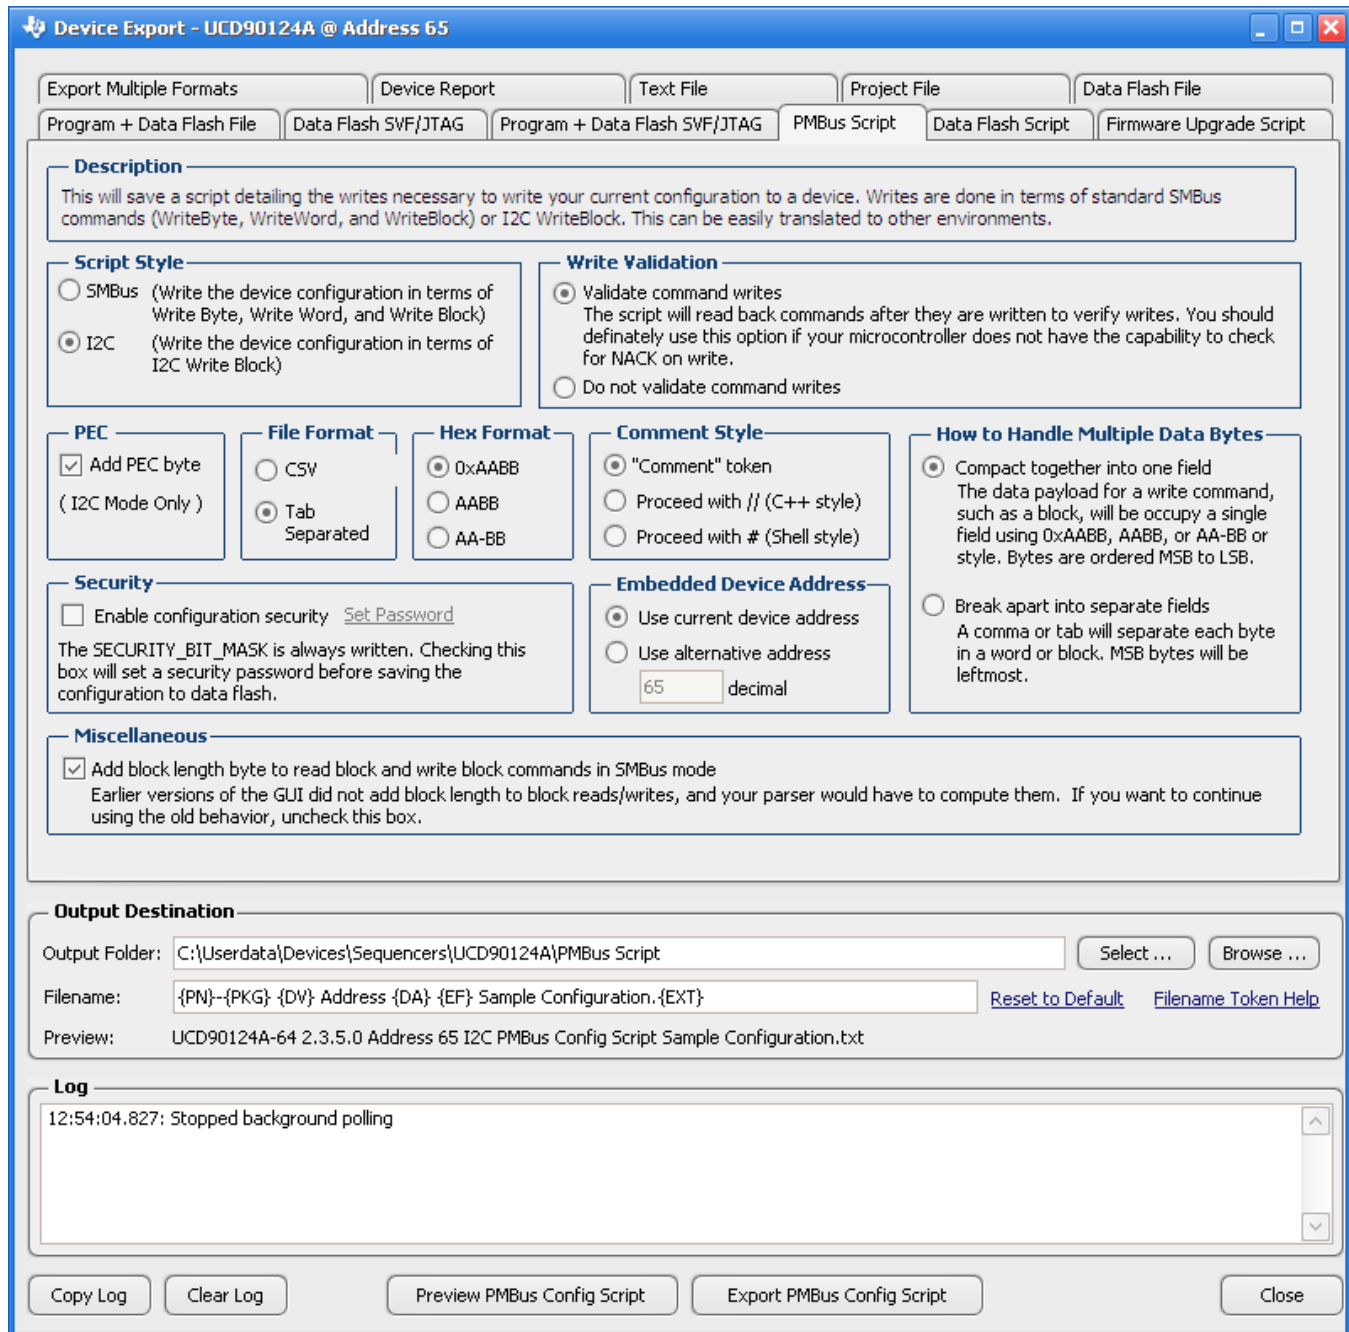

Figure 35. Fusion GUI PMBus Configuration Script Export Tool
2. The *Fusion GUI* (Figure 35) can create a PMBus or I2C command script file that can be used by the I2C